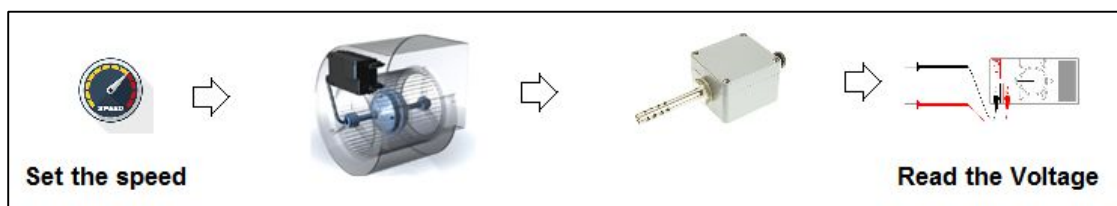

Fig. 25 – Find the PID Reference
- 3) In open loop set the fan speed at the desired performance and read the transducer voltage value (Fig.25)